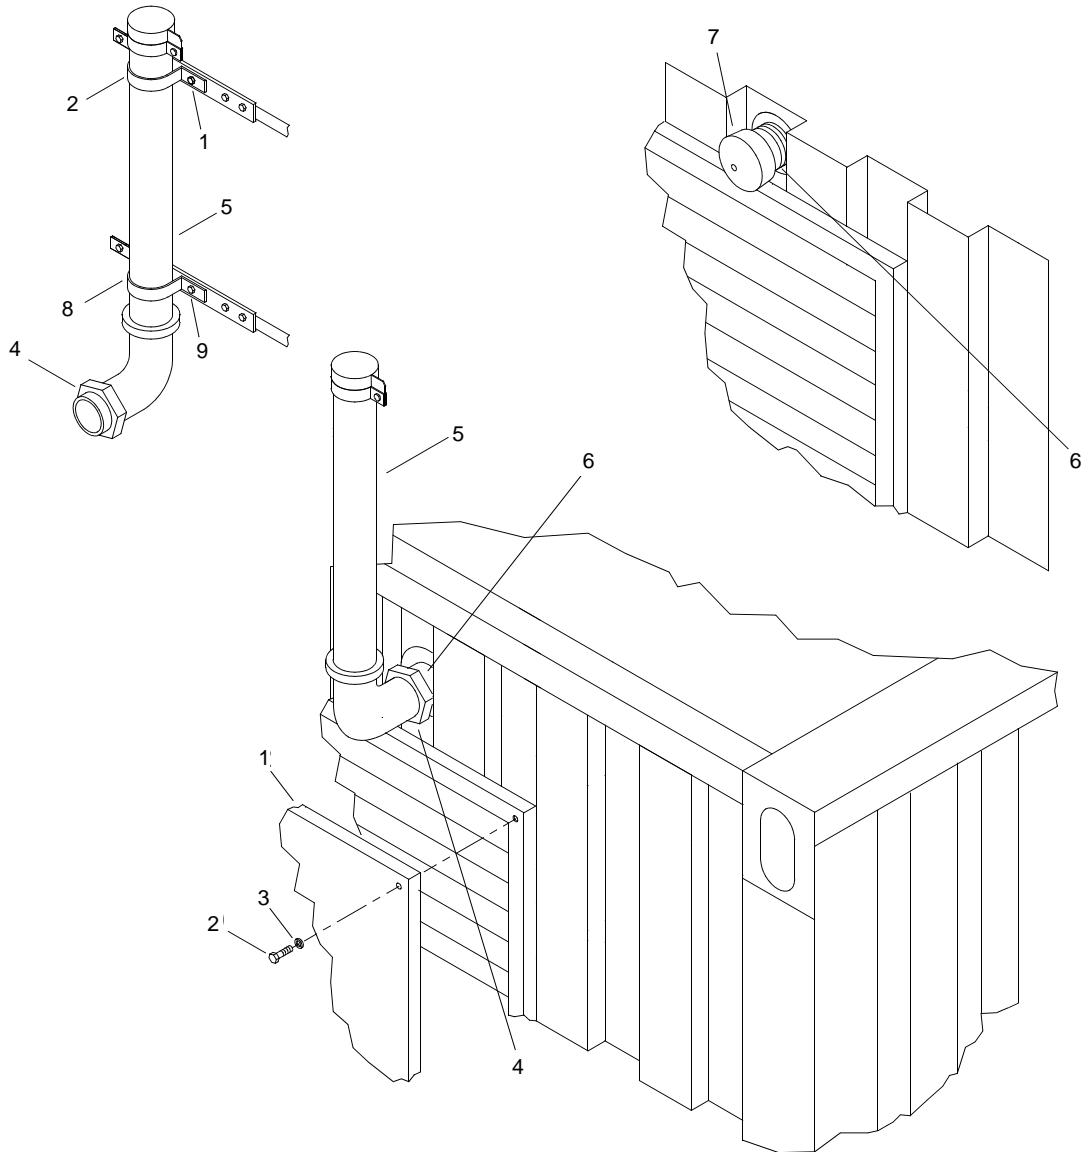

Figure 26. Exhaust Pipe and Louver Covers
3. Remove louver covers (figure 26, item 1) from inside the generator container.
4. Position louver covers (figure 26, item 1) over exhaust and intake dampers and secure with six hex bolts (figure 26, item 2) and lockwashers (figure 26, item 3).
5. Loosen flange nut (figure 26, item 4) connecting exhaust pipe (figure 26, item 5) to exhaust outlet (figure 26, item 6). Remove exhaust pipe (figure 26, item 5).
6. Remove protective cover (figure 26, item 7) from container and install on exhaust outlet (figure 26, item 6).
7. Place exhaust pipe (figure 26, item 5) in stowage brackets (figure 26, item 8) in interior of container.
8. Install and tighten bolts (figure 26, item 9) in stowage brackets (figure 26, item 8).